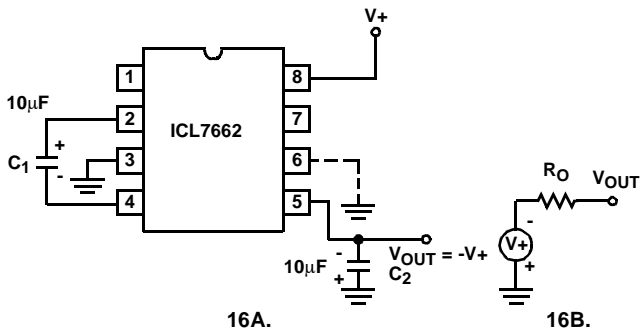

FIGURE 16. SIMPLE NEGATIVE CONVERTER AND ITS OUTPUT EQUIVALENT
The majority of applications will undoubtedly utilize the ICL7662 for generation of negative supply voltages. Figure 16 shows typical connections to provide a negative supply where a positive supply of +4.5V to 20.0V is available. Keep in mind that pin 6 (LV) is tied to the supply negative (GND) for supply voltages below 10V.
ESR also affects the ripple voltage seen at the output. The total ripple is determined by 2V, A and B, as shown in Figure 16. Segment A is the voltage drop across the ESR of C₂ at the instant it goes from being charged by C₁ (current flowing into C₂) to being discharged through the load (current flowing out of C₂). The magnitude of this current change is 2 × I_{OUT}, hence the total drop is 2 × I_{OUT} × ESR C₂ V. Segment B is the voltage change across C₂ during time t₂, the half of the cycle when C₂ supplies current the load. The drop at B is I_{OUT} × t₂/C₂ V. The peak-to-peak ripple voltage is the sum of these voltage drops:
Figure 23 combines the functions shown in Figure 16 and Figure 22 to provide negative voltage conversion and positive voltage doubling simultaneously. This approach would be, for example, suitable for generating +9V and -5V from an existing +5V supply. In this instance capacitors C₁ and C₃ perform the pump and reservoir functions respectively for the generation of the negative voltage, while capacitors C₂ and C₄ are pump and reservoir respectively for the doubled positive voltage. There is a penalty in this configuration which combines both functions, however, in that the source impedances of the generated supplies will be somewhat higher due to the finite impedance of the common charge pump driver at pin 2 of the device.